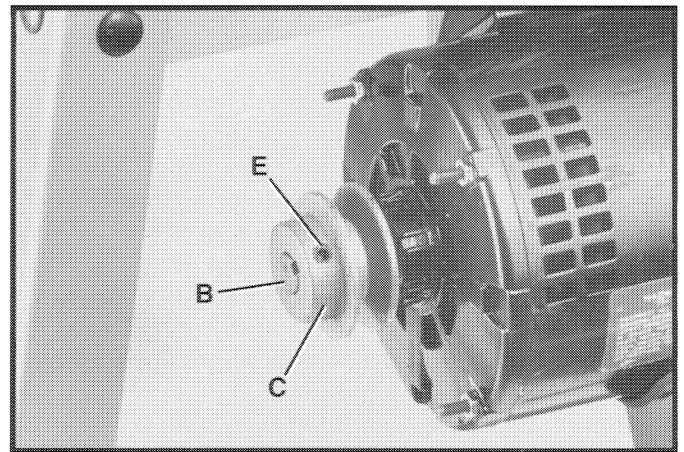

Fig. 16
3. End of pulley (C) Fig. 16, should be even with end of motor shaft (B) as shown, and tighten set screw (E). Minor adjustment to the motor pulley may be required in order to align motor pulley with arbor pulley.